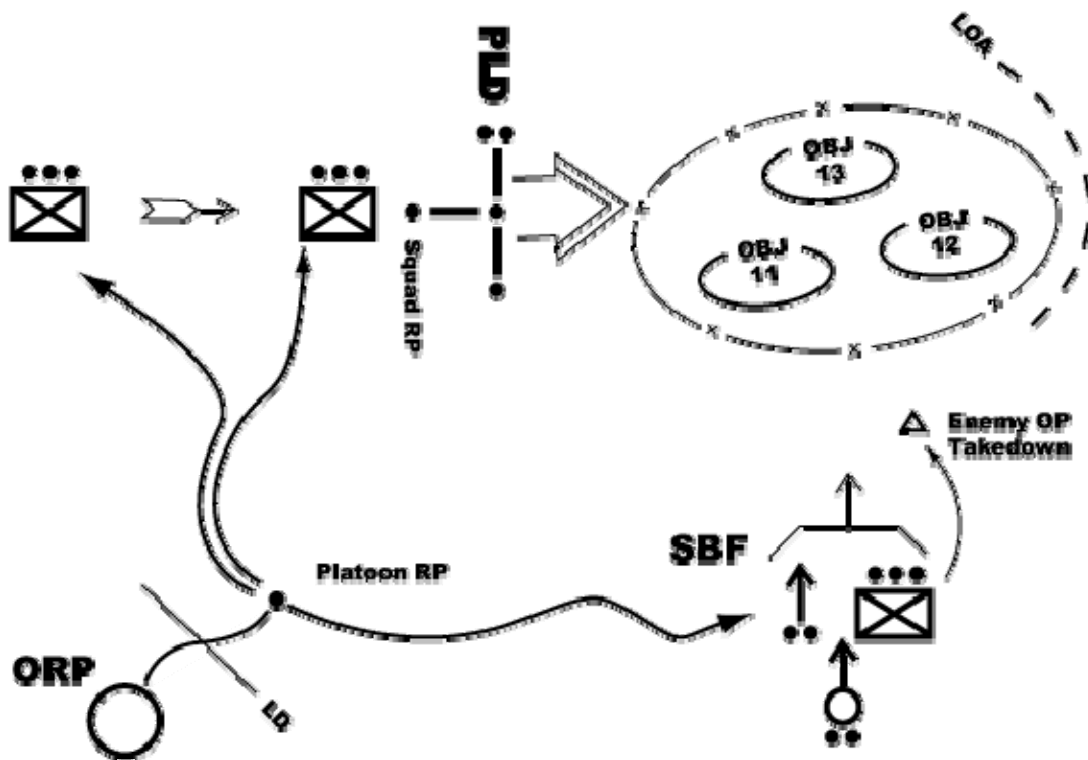

Figure 1. Deliberate, Supported, Non-Illuminated Night Attack Scheme of Maneuver.
1. **The standard company night attack is a deliberate, supported, non-illuminated attack.** The Assault Element is (1) platoon, reinforced by the Assault Section. The Support Element is (1) Platoon, the Machinegun Section and the Mortar Section. The Reserve is (1) Platoon staged behind the PLD. See Figure 1.